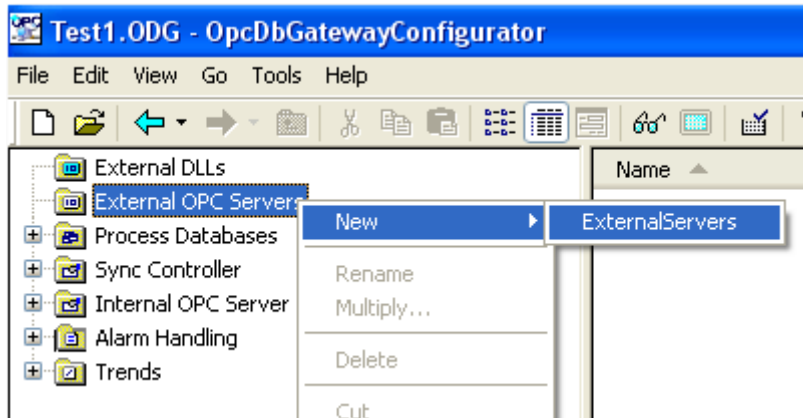

Figure 3: Adding of an external OPC Server to the configuration for OpcDbGateway.
1. Right-click on the left tree-view item **External OPC Servers** ⇒ **New** ⇒ **ExternalServers** (Please see Figure 3).